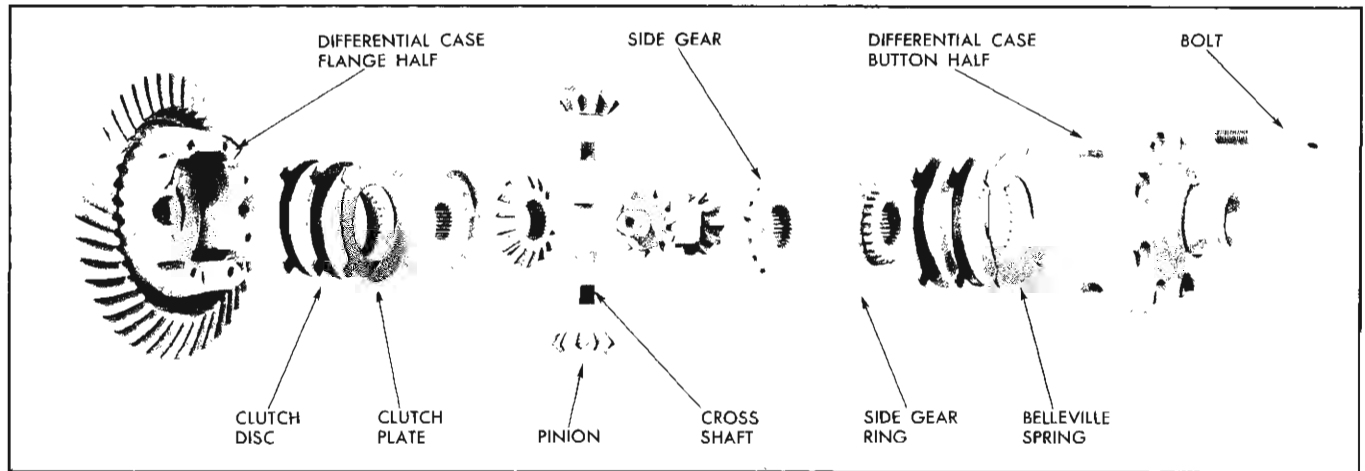

Fig. 4-64 Safe-T-Track Differential—Exploded View
**NOTE:** Care should be taken to note how the friction plates and friction discs are assembled (See Fig. 4-64). The exact location and orientation of the Belleville Spring Plate used on each side should be noted here. Each pinion cross shaft should also be marked or scribed so that each pin cam surface will match with the same "V" ramp in the case when reassembling.
**NOTE:** Install Belleville spring first with convex side toward case and (so that the I.D. of the spring is in contact with case) then a clutch disc, clutch plate, disc and plate in this order as shown in Fig. 4-64.